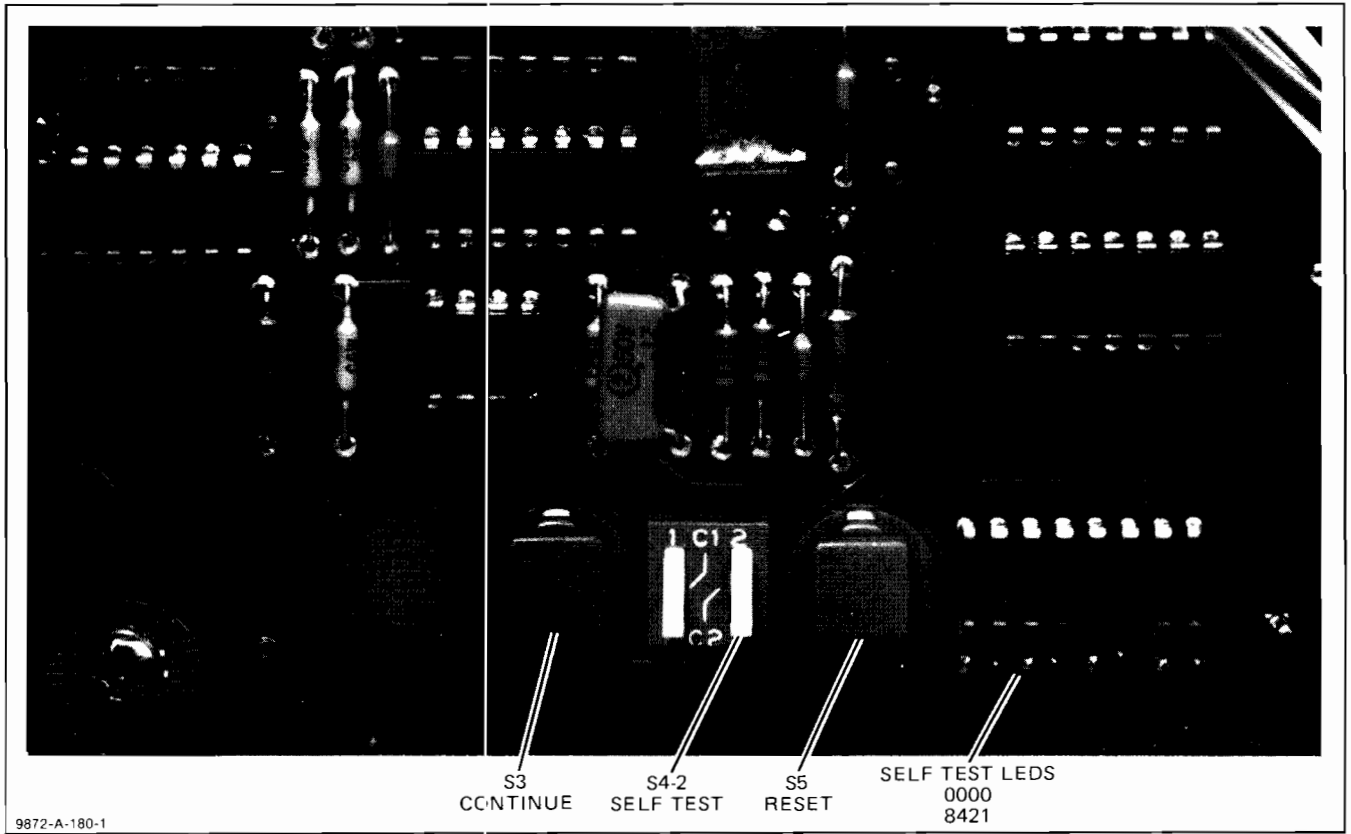

Figure 2-5. Self Test Controls
2-19. The Self Test is controlled by three switches at the rear of the Main PCA A2. See Figure 2-5. Switch S4-2 is used to select the Self Test. The CONTINUE switch S3 (green) is used to continue the test after any error or halt. The RESET switch S5 (red) performs the same function as a power-up initialization.
- e. Set the SELF TEST switch S4-2 to the ON position. See Figure 2-5.